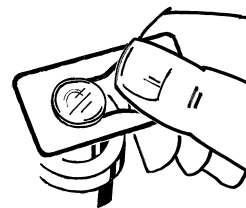

FIGURE 4-3 Removing Membrane Holding Ring
2. Pry off the membrane holding ring (Figure 4-3) using the special tool in optional recharge kit or your fingers.